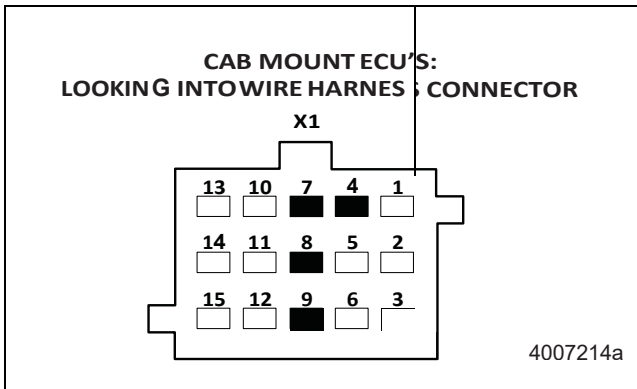
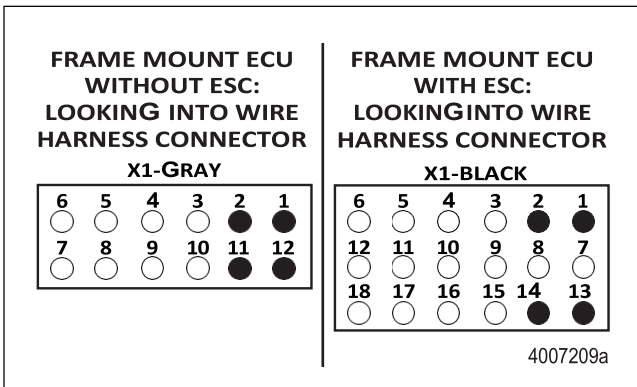

Figure 3.23
Figure 3.24
- Take measurements at the ECU harness. Figure 3.23 and Figure 3.24.